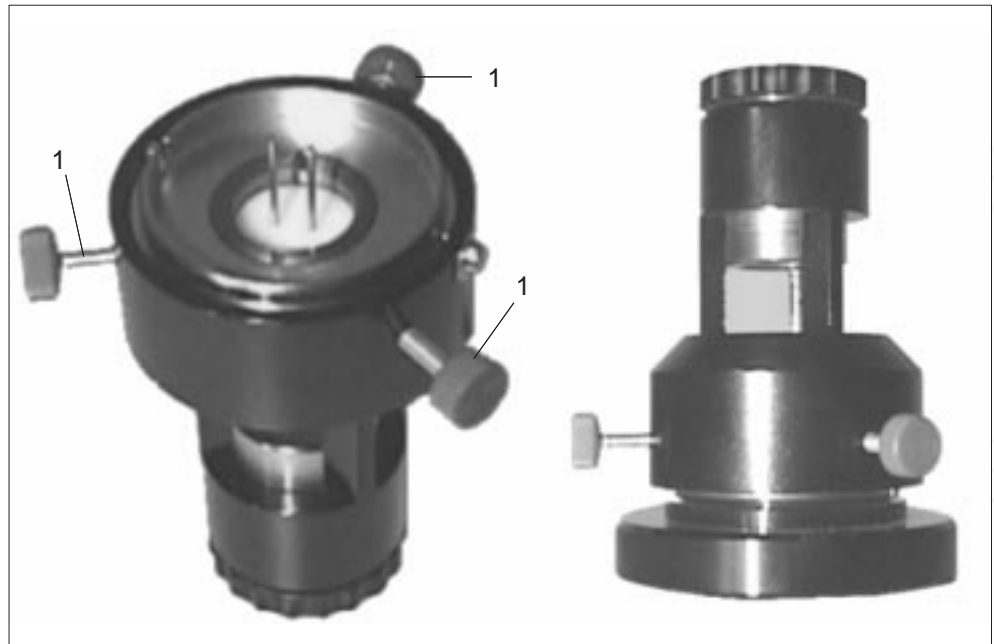

Fig. 6-9: Adjustment device
- Loosen retaining ring on aperture drive (Fig. 6-9).